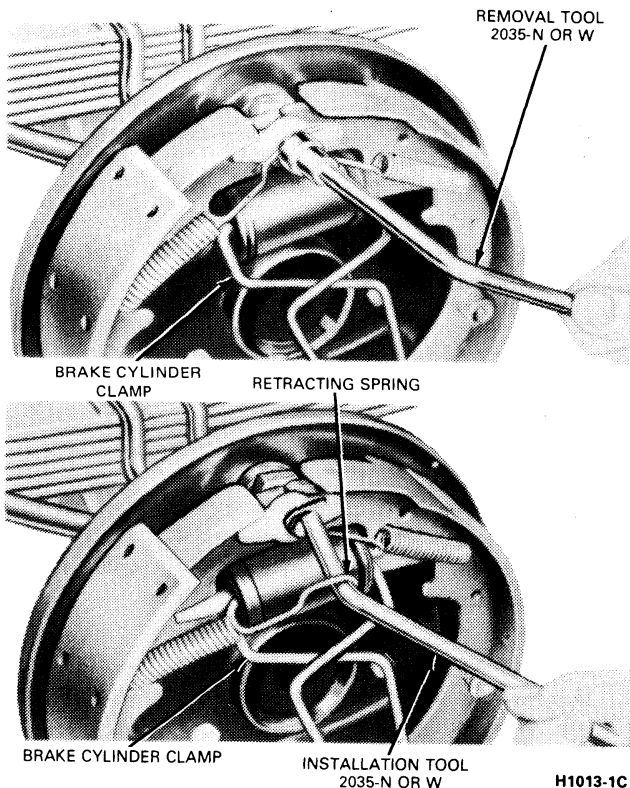

FIG. 9 Spring Replacement—Typical
1. Remove the wheel and drum and install a clamp over the ends of the brake cylinder as shown in Fig. 9.
5. Remove the secondary shoe-to-anchor spring using Tool 2035-W (Fig. 9). Using the same tool, remove the primary shoe-to-anchor spring and unhook the cable anchor. Remove the anchor pin plate (if equipped).
6. Install the primary shoe-to-anchor spring using Tool 2035-W (Fig. 9).